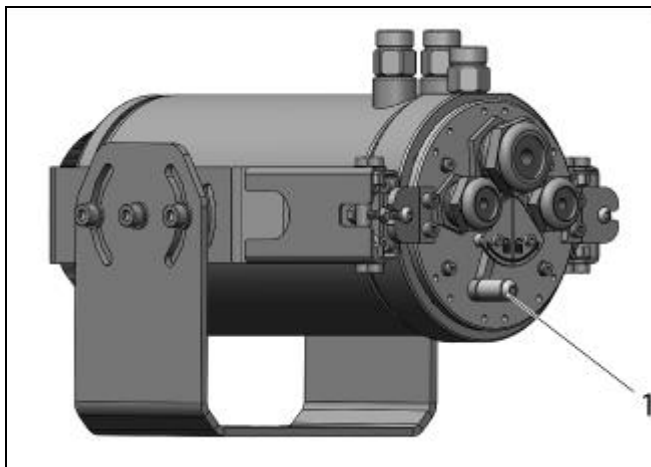

Figure 37: Back side of the CoolingJacket with locking lever
6. Move the locking lever to the left (symbol: ) , so that the chassis is fitted close to the inner surface of the housing (**Figure 37**).
4. Move the locking lever to the left (symbol: ) , so that the chassis is fitted close to the inner surface of the housing (**Figure 37**)